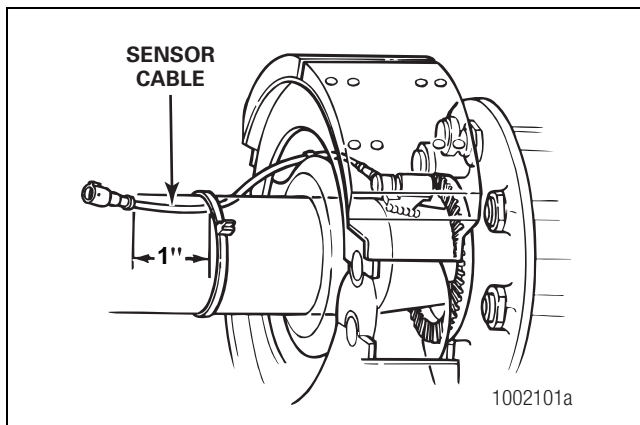

Figure 6.2
3. Route the sensor cable toward the brake chamber, over the brake spider, and behind the axle. Secure the cable to the axle between the brake spider and the suspension brackets. Continue to route the sensor cable behind the spring seats. Secure the cable to the axle one inch from the molded sensor plug. Figure 6.2.